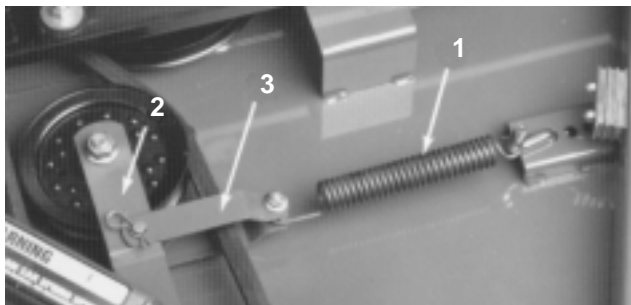

Figure 21
2. Unhook the spring from the idler arm bracket to release the belt tension (Fig. 21). Remove the cotter pin and clevis pin securing the idler arm bracket to the idler arm.
7. Install the idler arm bracket to the idler arm with the cotter pin and clevis pin (Fig. 21). Hook the spring onto the idler arm bracket. To ensure that there is proper tension on the drive belt, the spring should be extended to a length of approximately 7 in. (18 cm). If the spring is not extended to this length, relocate the spring rod to a new mounting hole further away from the belt.